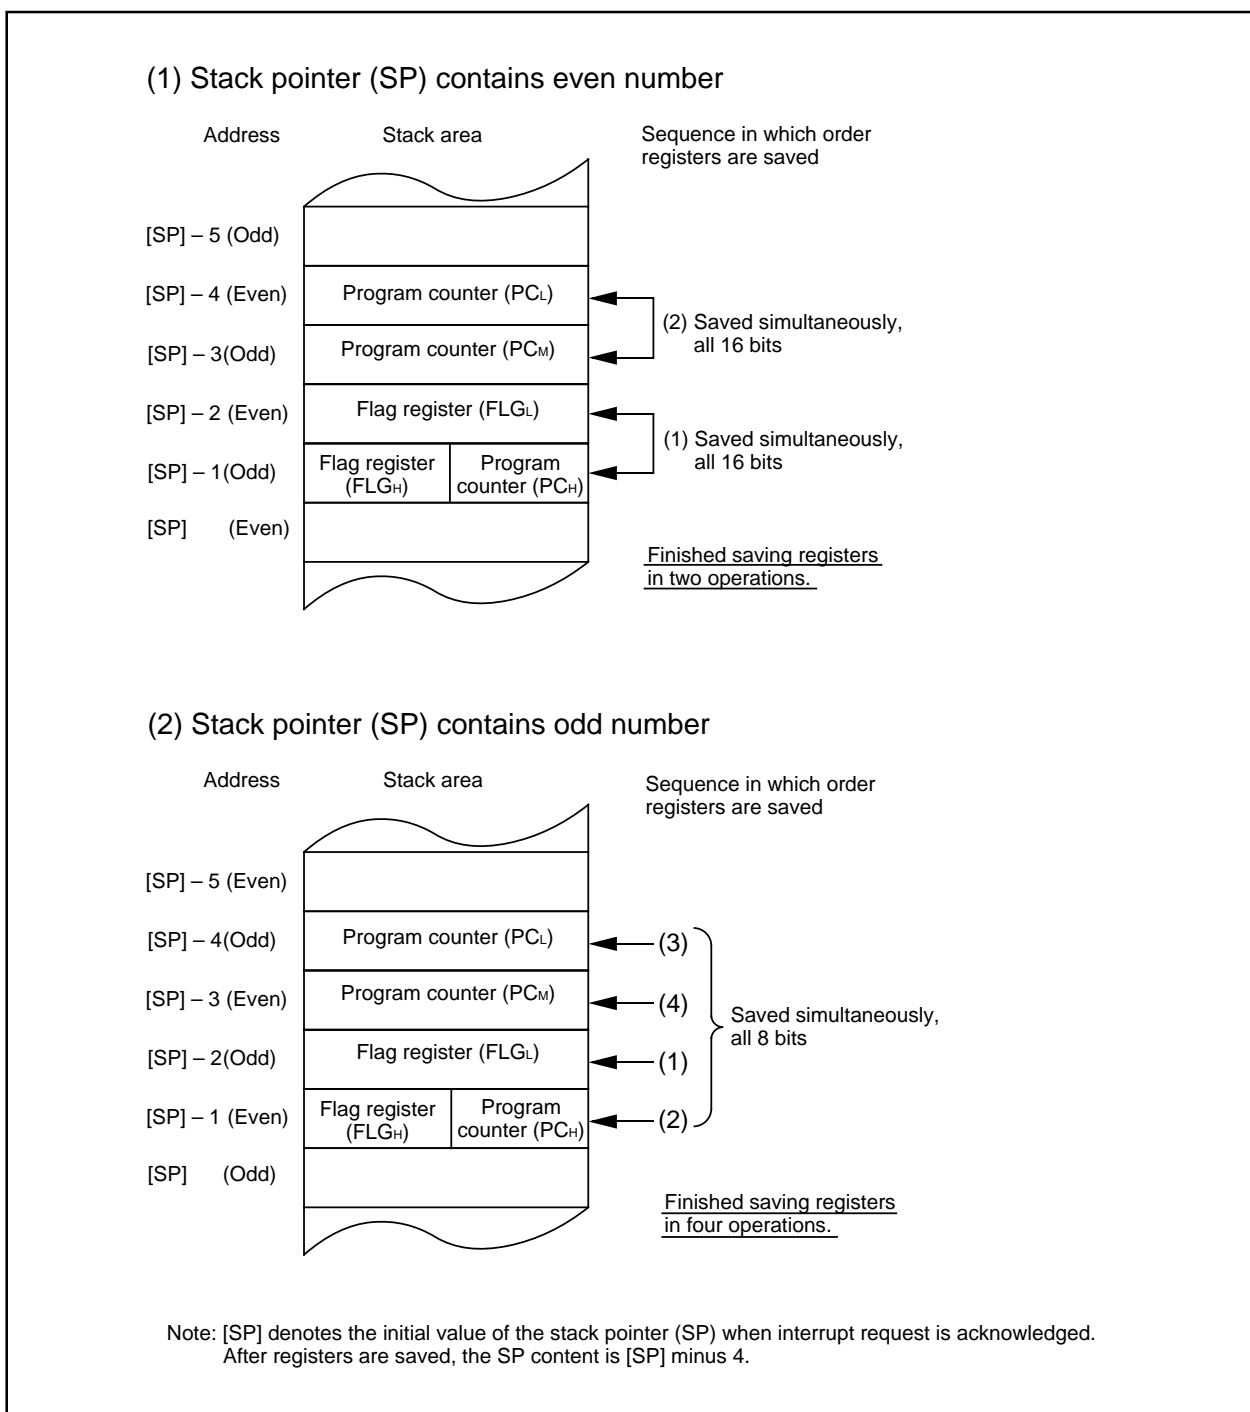

Figure 1.11.7. Operation of saving registers
The operation of saving registers carried out in the interrupt sequence is dependent on whether the content of the stack pointer (Note), at the time of acceptance of an interrupt request, is even or odd. If the content of the stack pointer (Note) is even, the content of the flag register (FLG) and the content of the program counter (PC) are saved, 16 bits at a time. If odd, their contents are saved in two steps, 8 bits at a time. Figure 1.11.7 shows the operation of the saving registers.